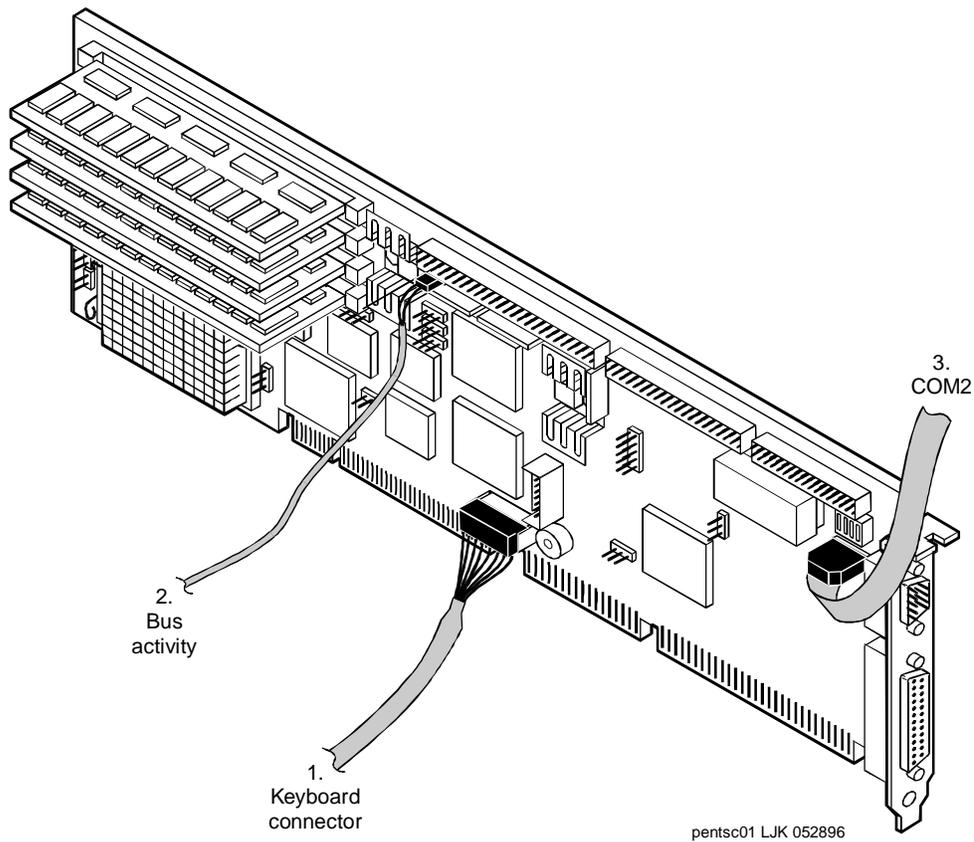

Figure 5-20. Attaching Cables to the P575/CPU Circuit Card - Part 1
5. Attach the keyboard cable to the keyboard pins on the P575/CPU circuit card (Figure 5-20).
7. Attach the disk activity cable to the P575/CPU circuit card with the red lead toward the back of the MAP/40 or 40s (Figure 5-20).
8. Install the rear COM2 cable to the P575/CPU circuit card (Figure 5-20).
9. Dress this cable to the side (Figure 5-20).